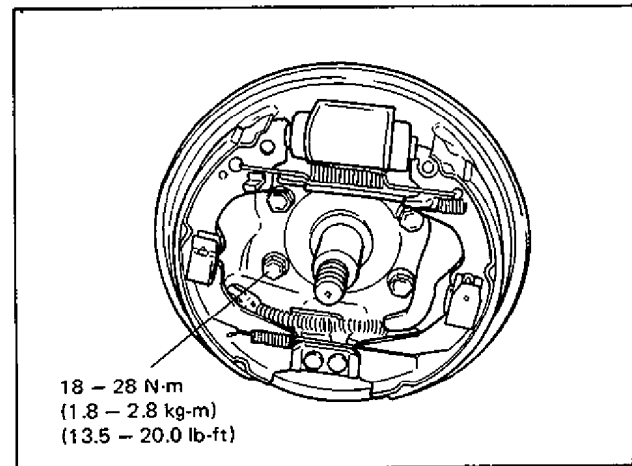

Fig. 3E-43
- 9) Install brake hose bracket to knuckle and stabilizer bar to suspension arm. (Refer to Fig. 3E-46-3)